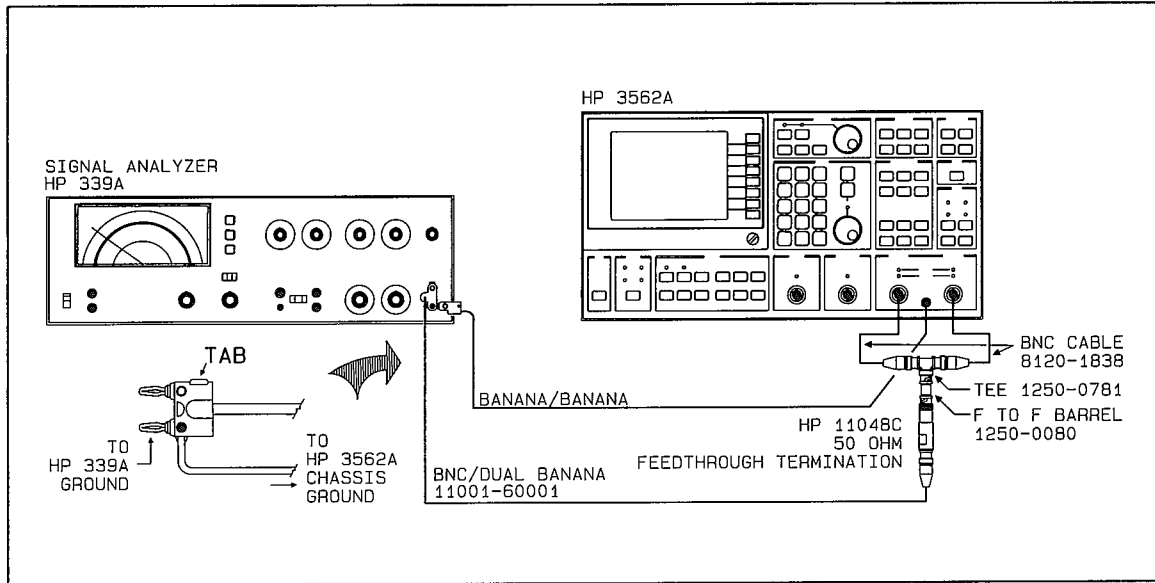

Figure 2-22 Harmonic Distortion Test setup #2
- E. For measurement two, connect the test instruments as shown in figure 2-22. The chassis ground cable must go to the ground terminal of the low distortion oscillator.